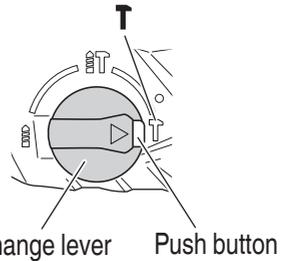

Fig. 11
This rotary hammer can be set to hammering only mode by pressing the push button and turning the change lever to the **T** mark (Fig. 11).
### (3) Turn the change lever to **T** mark (Fig. 11).